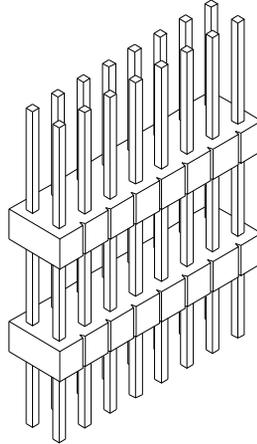

FIG. 24 SMALL BOARD STACKER
Step 1. Plug the 16 pin board stacker into the J9 header on the Analog board. (See Figs. 24 & 25)